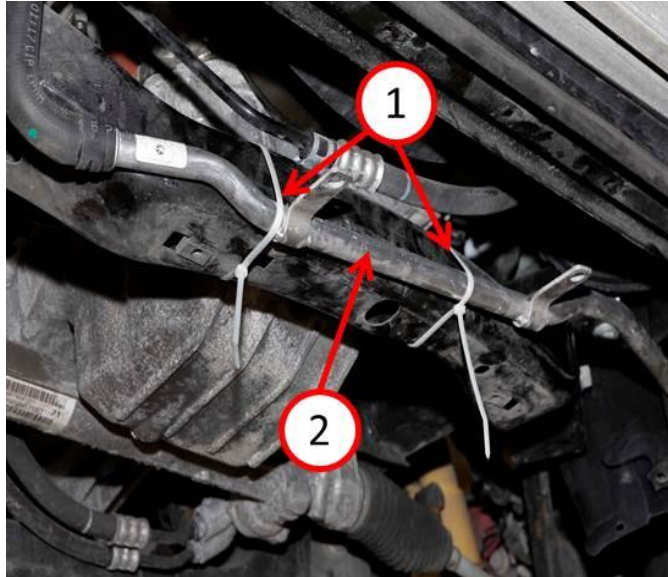

Fig. 13 LTR Tube Tied Back
24. Remove the push pins from the lower radiator support to the electric water pump for the LTR system tube (2) if equipped with supercharger. Tie strap (1) the tube back against the front cradle for clearance of the radiator (Fig. 13).
35. Remove the tie straps securing the LTR tube and install the push pins to the lower radiator support if equipped (Fig. 13).